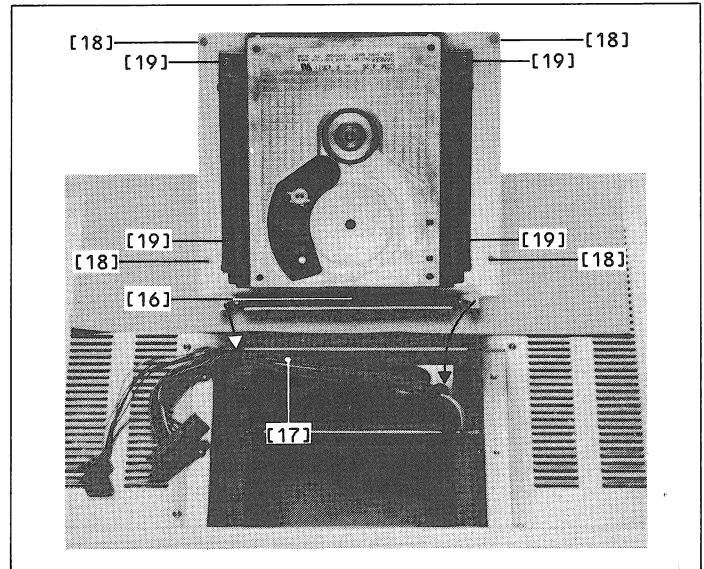

Fig. 2.6
-> Fig. 2.6
- Expose the cable harness [17] (Fig. 2.6).